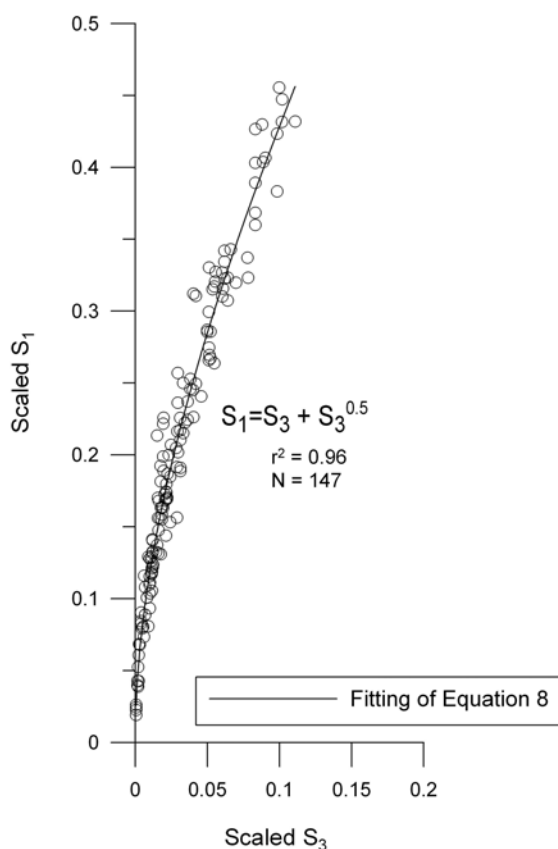

Figure 14. Dimensionless plot of S_3 - S_1 of triaxial data of present study.
The accuracy of fitting equation (7) to the triaxial data, for the rocks tested, is justified as the majority of (S_3 , S_1) points are plotted on this line. These points have a really good plot when compared to the scatter of the σ_3 - σ_1 plots for each rock. The dimensionless plot S_3 - S_1 of the 150 triaxial data points, of the present study, is shown in Figure 14.